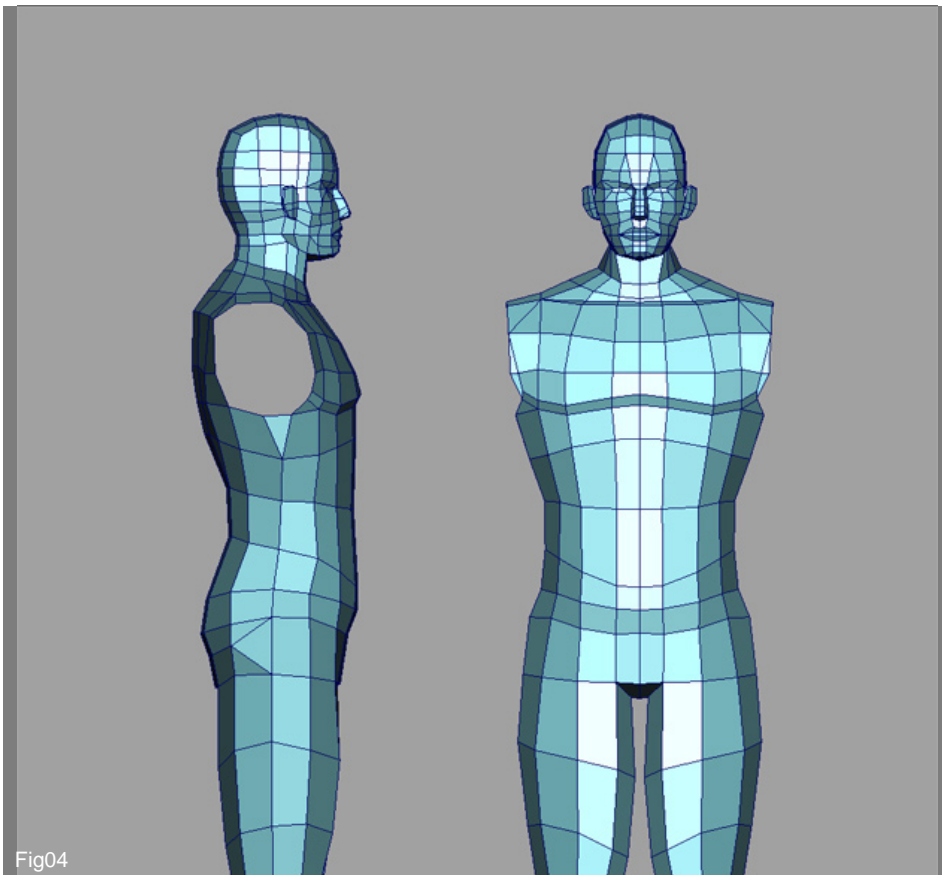

Fig04
4. Now extrude two more times the edge downward and reposition the vertices for a better definition of the legs (Fig04).